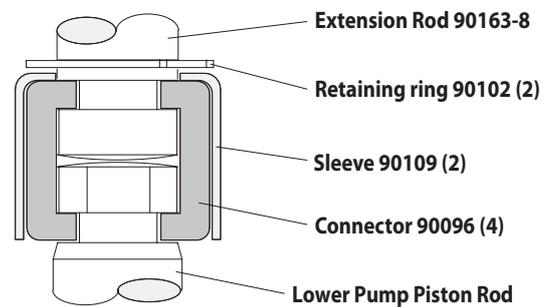

Figure 2
4. Using e-ring pliers, slide the retaining ring up far enough to allow the sleeve to move upward and release the two connectors (figure 2). Lay the air motor aside.